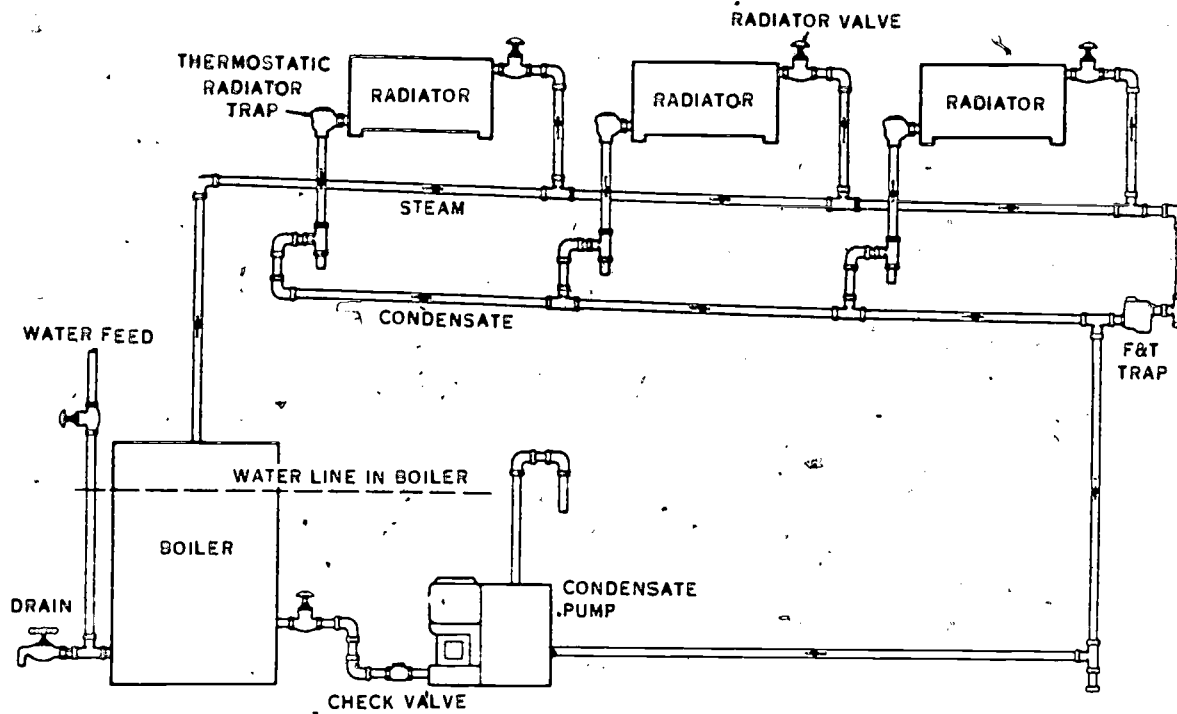

Figure 51. A two-pipe vapor system with a condensate pump.
21. **Two-Pipe Vapor System with a Condensate Pump.** The two-pipe vapor system with a condensate pump, such as that shown in figure 51, is similar to the two-pipe vapor system with the return trap, except that the condensate is returned to the boiler by a power-driven centrifugal pump, instead of by a return trap. This system includes a separate main, a radiator feed at the top, and a return system with themostatically trapped outlets located at the bottom of the radiators opposite to the feed end. The return main terminates at the receiver of the condensate pump, where all of the air in the system is discharged to a vent on the receiver. With the use of a condensate pump, all of the returns to the pump are kept dry, and the radiators can be located below the boiler water line. This is not possible with the steam distribution systems previously described. The radiators should, however, be installed above the return main to permit gravity flow of the condensate from the radiator, and the return main should pitch downward to the pump receiver.